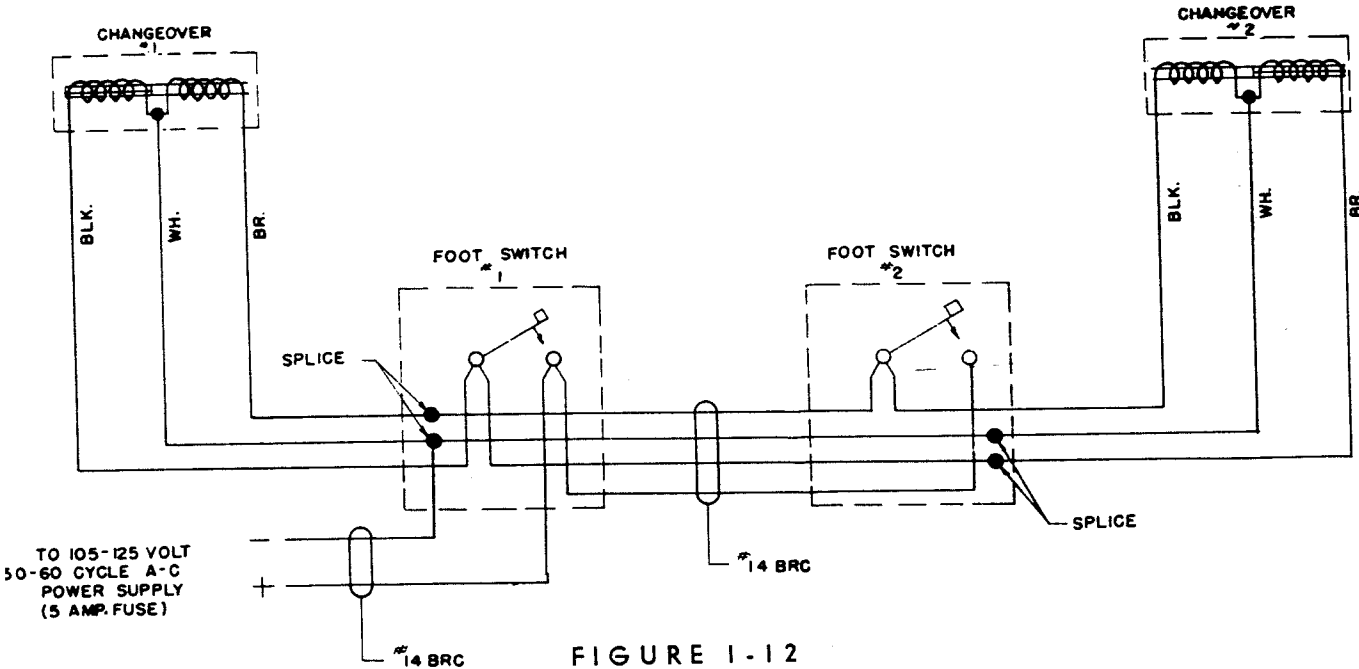

FIGURE 1-12
5. Picture Changeover (See figure 1-12.)